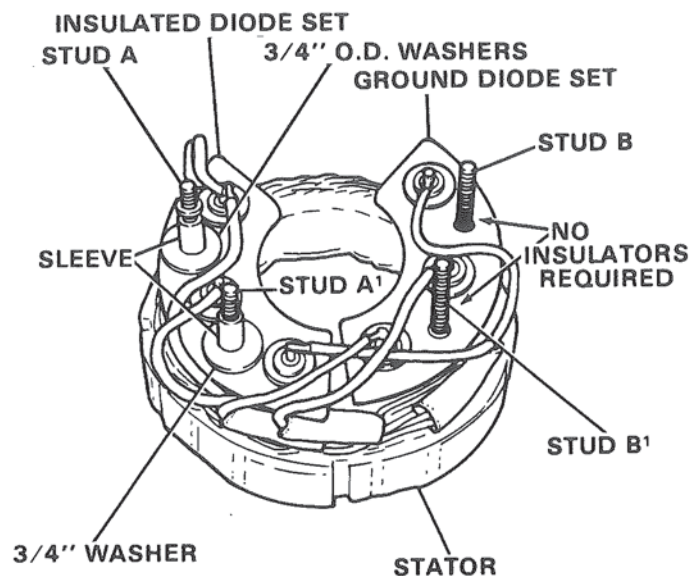

Figure 21. Placement of Internal Insulators.
6. Place internal insulating washers and sleeves as shown in Figure 21. Stud A is the Auxiliary Terminal.